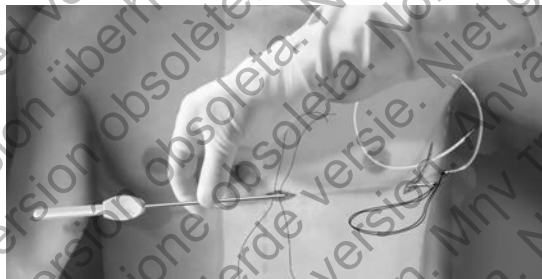

Figure 3. Connecting the Distal End of the Subcutaneous Electrode to the EIT
3. Using conventional suture material, tie the anchoring hole of the subcutaneous electrode to the EIT creating a long 15-16 cm loop. (Figure 3 Connecting the Distal End of the Subcutaneous Electrode to the EIT on page 10).